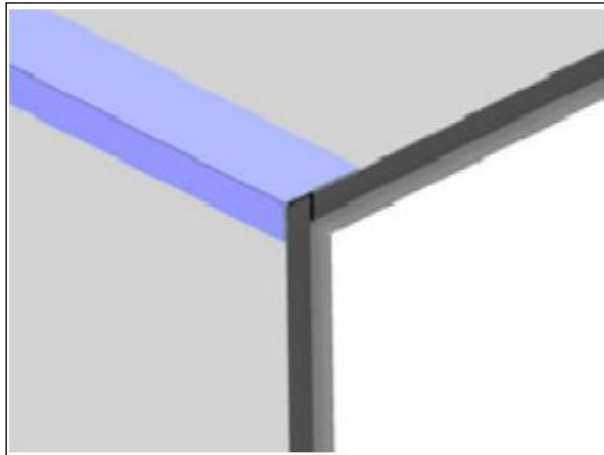

Figure 5
4.2.10.9. Use aluminium foil tape to seal the joint. (Figure 5)